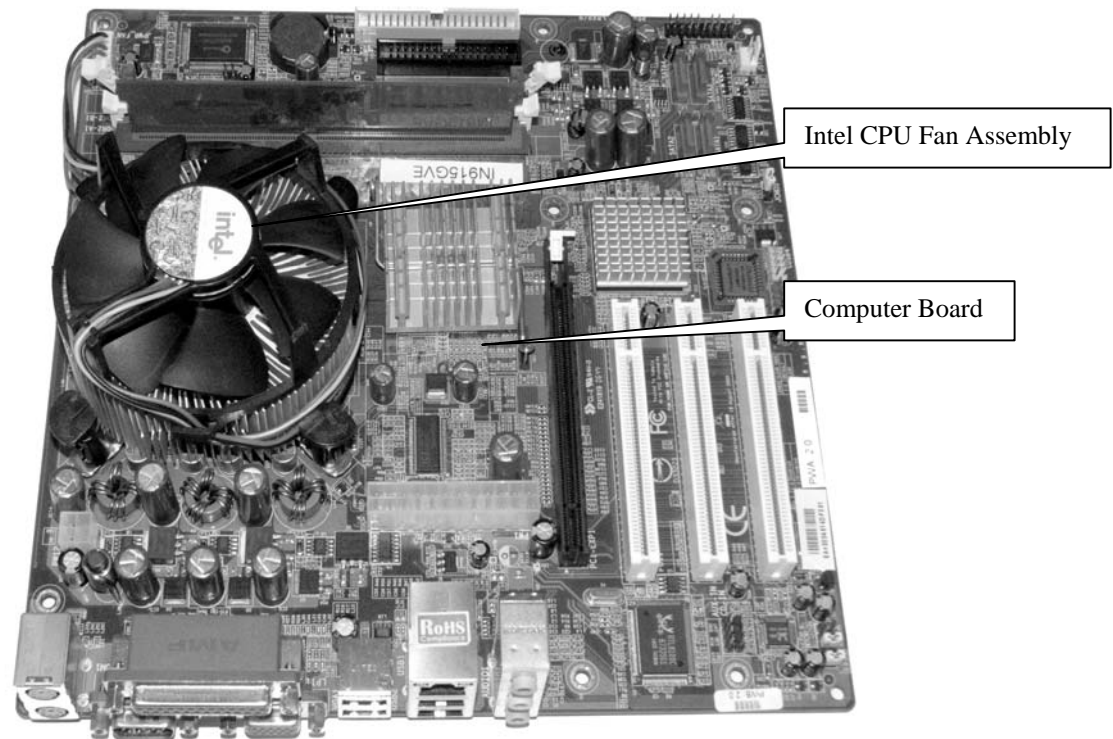
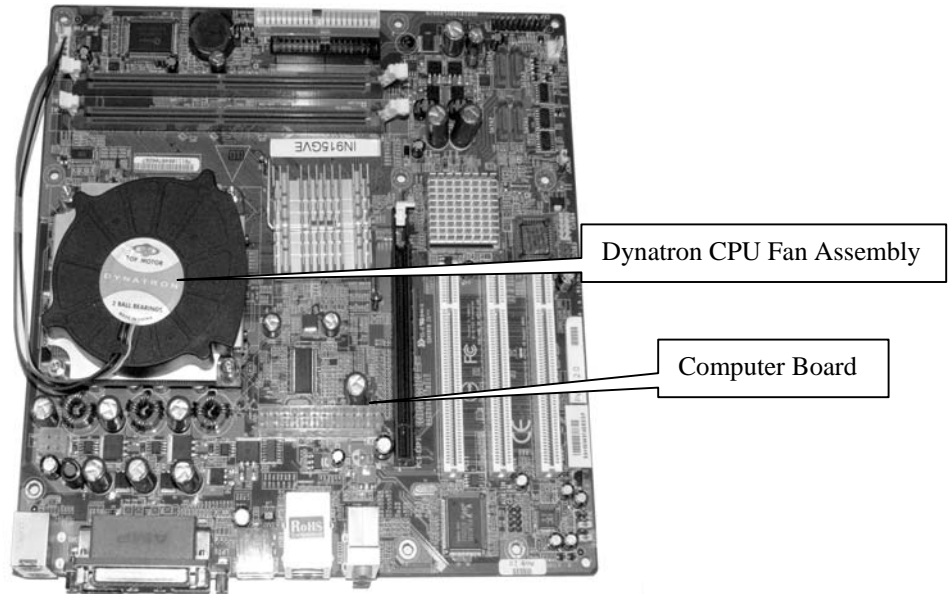

Figure 2A
Figure 2B
3. Figure 2A shows the Intel CPU Heatsink and Fan Assembly and Figure 2B shows the Dynatron CPU Heatsink and Fan Assembly that were used on the IN915GVE computer board. If you are installing this Heatsink and Fan Assembly Kit into a computer board that has an Intel fan assembly proceed to Step 4. If you are installing this Heatsink and Fan Assembly into a core computer that has a Dynatron Fan Assembly proceed to Step 5.